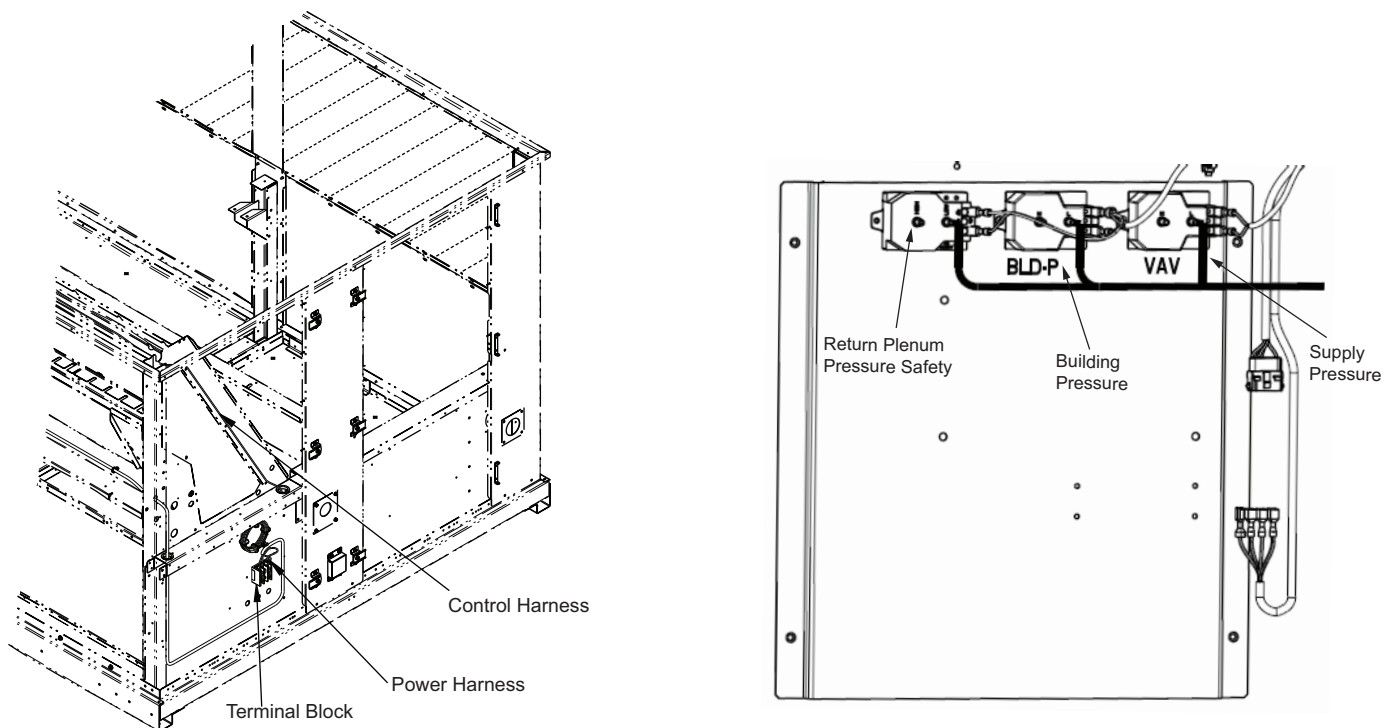
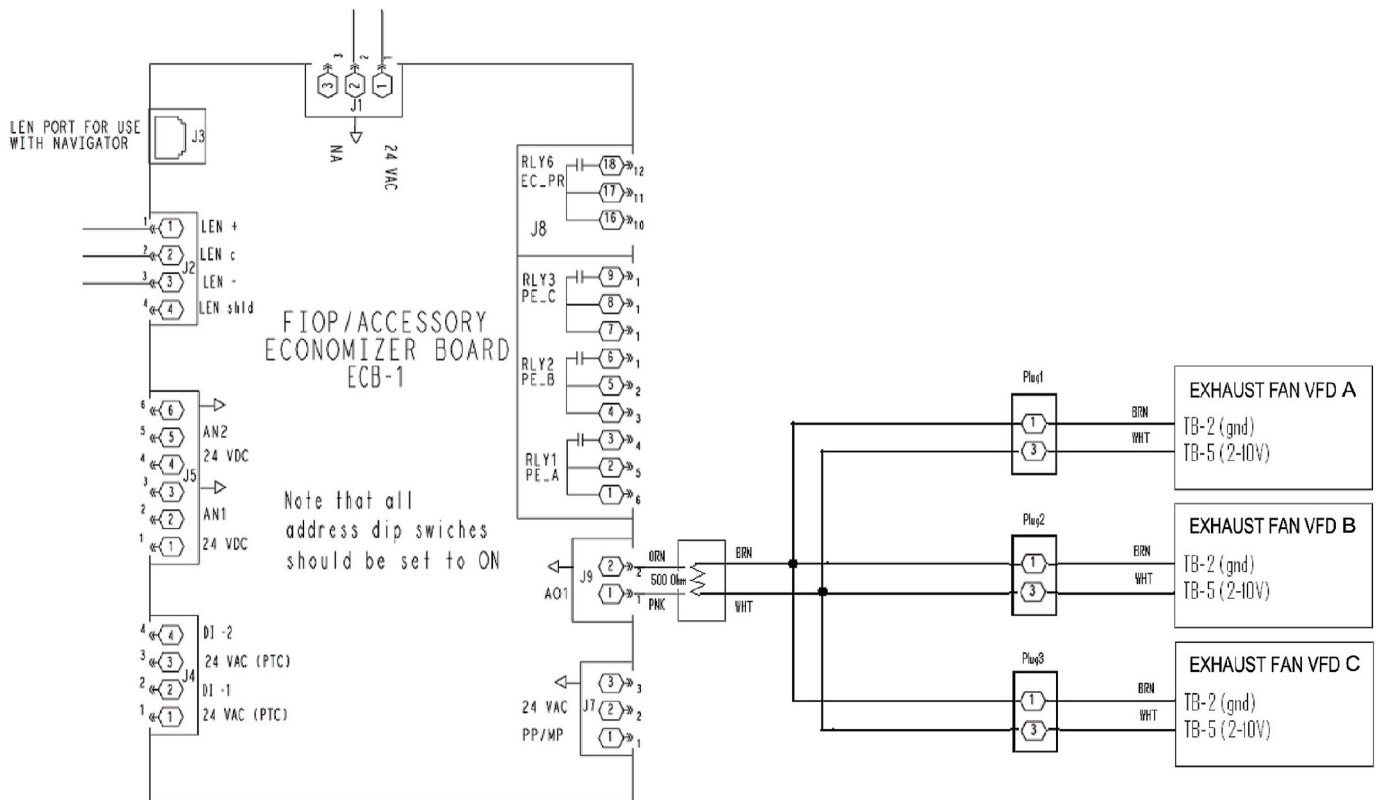
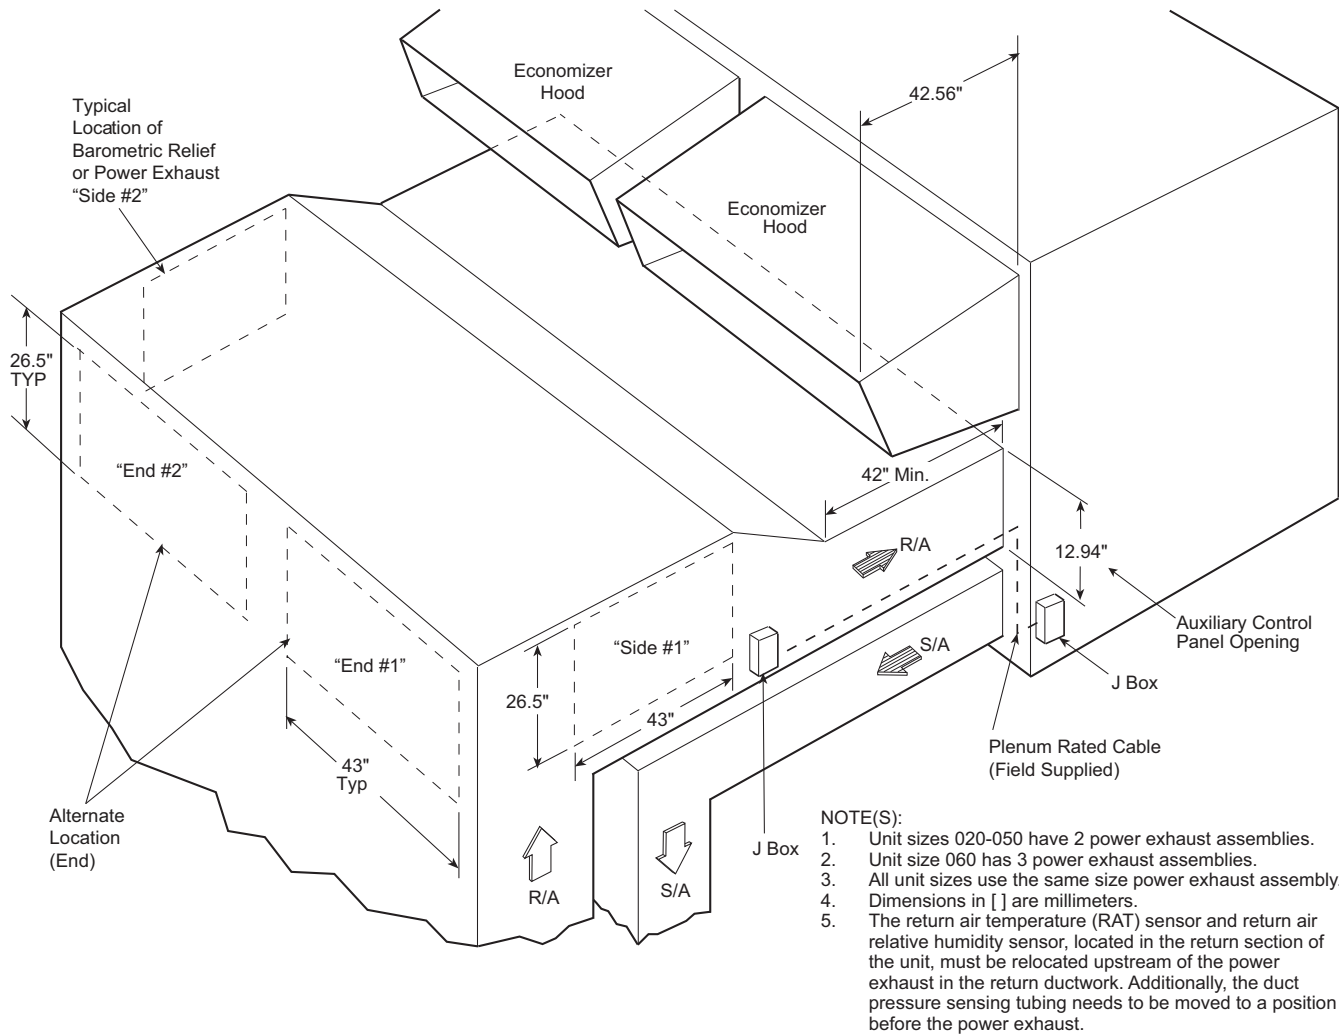

Fig. 4 — Auxiliary Control Box for 48/50K Units
Fig. 12 — Auxiliary Control Box ECB1 Wiring for 48/50A Only
Fig. 15 — Power Exhaust Location on Side Return Duct
9. **NOTE: The following statement is valid for A-series only.** Route the control wiring from the module closest to the auxiliary control panel to ECB-1. Plug the control harness plug with 500-ohm resistor on Terminal J9, pins 1 and 2 on the ECB-1 control board. See Fig. 12 for control wiring. Route the VFD (variable frequency drive) control wiring behind each support panel that separates each exhaust module and plug the control wiring into the VFD of the next module(s). For K series units the VFD control wiring should be plugged into the control harness. See Fig. 4 for auxiliary control details.
15. Variable air volume (VAV) units and units with power exhaust with building pressure (BP) control include, pressure transducers for measuring the duct supply pressure (SP) or building pressure (BP) that require field supplied pneumatic tubing and pressure pickup ports. The pressure transducers are in an auxiliary control box, accessible through the filter access door. See Fig. 2 and "Auxiliary Control Panel Opening" in Fig. 15 on page 10 for the location of auxiliary control box, located behind filter access door. See Fig. 4 for pressure transducer locations.
Ensure that the transition required to accommodate these openings begins at least 3-1/2 ft away from the outdoor-air hood. Any obstruction closer than 3-1/2 ft will interfere with the airflow and result in rain entering the hood through the filters. See Fig. 15 for power exhaust details.
10. **NOTE: The following statement is valid for A-series only.** Route the control wiring from the "A" module through the return duct to the auxiliary control panel. Plug the control harness plug with 500-ohm resistor on terminal J9, pins 1 and 2 on the ECB-1 control board. Refer to Fig. 12 for control wiring. For additional module accessory packages, Route the VFD (variable frequency drive) control wiring behind each support panel that separates each exhaust module and plug the control wiring into the VFD of the next module(s).
15. Variable air volume (VAV) units and units with power exhaust with building pressure (BP) control include, pressure transducers for measuring the duct supply pressure (SP) or building pressure (BP) that require field supplied pneumatic tubing and pressure pickup ports. The pressure transducers are in an auxiliary control box, accessible through the filter access door. Refer to Fig. 2 and "Auxiliary Control Panel Opening" in Fig. 15 for the location of auxiliary control box, located behind filter access door. Refer to Fig. 4 for pressure transducer locations.